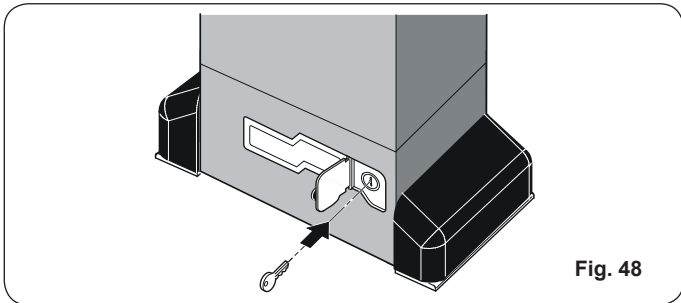

Fig. 48
1. Open the protection door and insert the supplied key in the lock (Fig. 48).